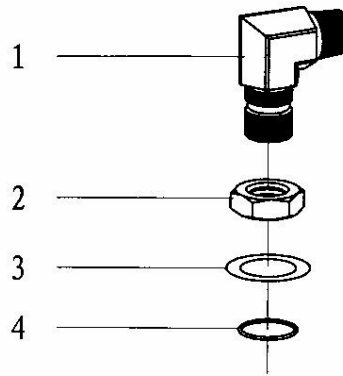

Fig.16
- Bend sub (1 5/16-12UN) (**Fig16, Table 13**)